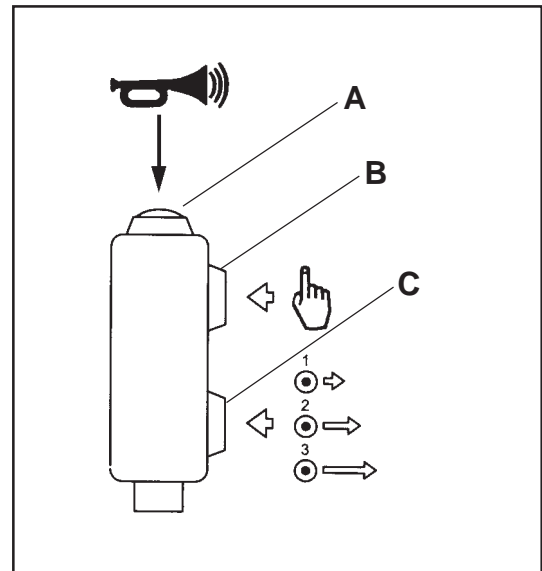

Figure 15
1. Horn : The horn is a red button located on the top of the joystick (figure 15, item A). **NOTE: The horn sounds continuously when pressed and intermittent and automatic in reverse.**
2. One Touch: The one touch button is a green button located on the upper front of the joystick (figure 15, item B). **NOTE: For more information about the one touch control see below.**
3. Speed Selector: The speed selector is a black button located on the lower front of the joystick (figure 15, item C).
1. Press and hold the green one touch button (figure 15, B) until you hear a *double beep* from the machine. **NOTE: The time required for this will be approximately 10 seconds.**